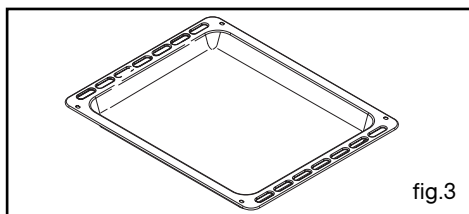

fig.3
• **Plat lèche-frite multi-usages fig.3**